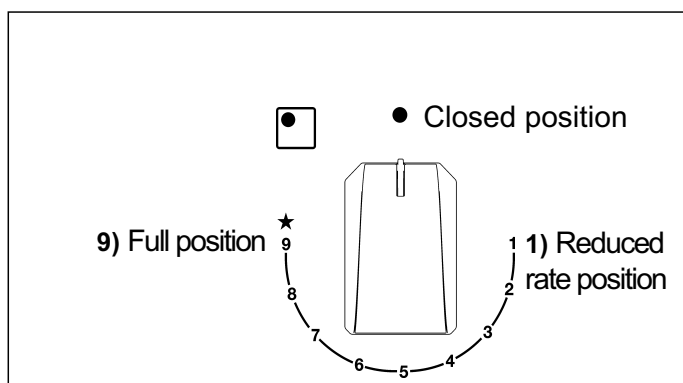

FIG. 1
Push and turn the knob corresponding to the required burner in an anticlockwise direction until it reaches the full on position of full  (position 9 fig. 1), then depress the knob, the tap is equipped with a scale of 9 positions, with each click the flame is reduced until you reach the position of 1, ie the minimum supply of gas.
The knobs of burners equipped with flame failure device must be turned in an anticlockwise direction until they reach the full on position 9 (large flame fig. 1) and come to a stop. Now depress the knob in question and repeat the previously indicated operations.
the reduced rate position 1 (small flame fig. 1).
- **burners with flame failure device may only be ignited when the relative knob has been set to the Full on position (Position 9, fig. 1).**